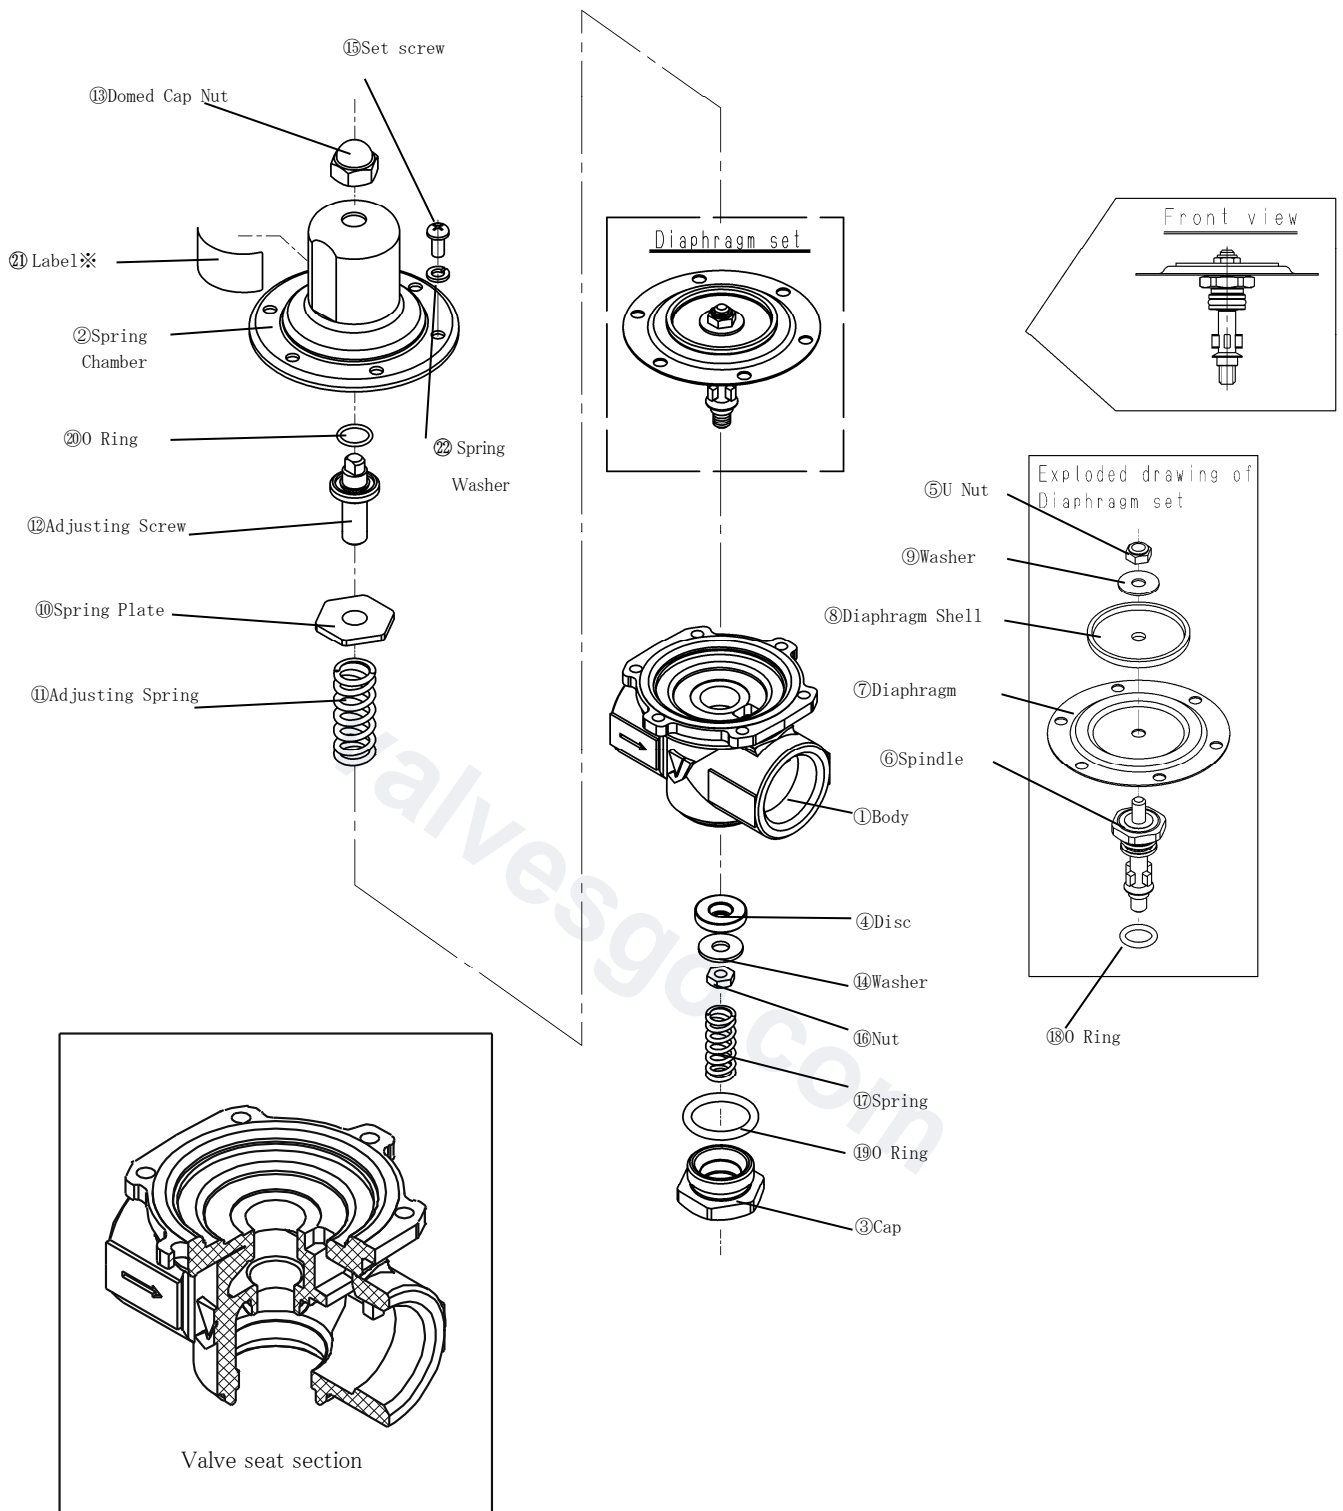

Fig. 3 Exploded drawing of GD-41Type
Longevity of expendable parts depends on frequency and condition of use. Rough standard of life estimation is given below. (Part number shown in the table below refers to the number in Fig. 3, Exploded drawing of GD-41Type.)
6.2 Troubleshooting (Refer to Fig. 3) Same GD-43 Type
- I . ii Pinched foreign material or flaw found on valving element P or valve seat (For valve seat, see Fig. 3 Exploded drawing of GD-41Type.)